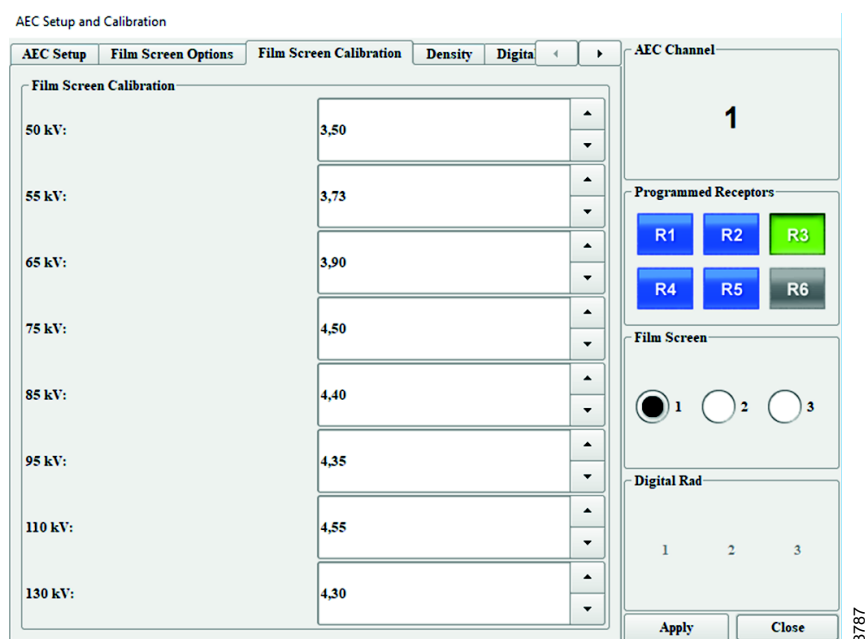

Fig. 4-186 AEC setup and calibration
- Set the value in the 75 kV dialog box to 4.50, see **Fig. 4-186** for the relevant AEC channel and film screen
1. Repeat the **Determination Of AEC Cut Off EI** procedure, with the kV levels (except 75 kV) shown in **Fig. 4-186**, using the phantom sizes in the table: